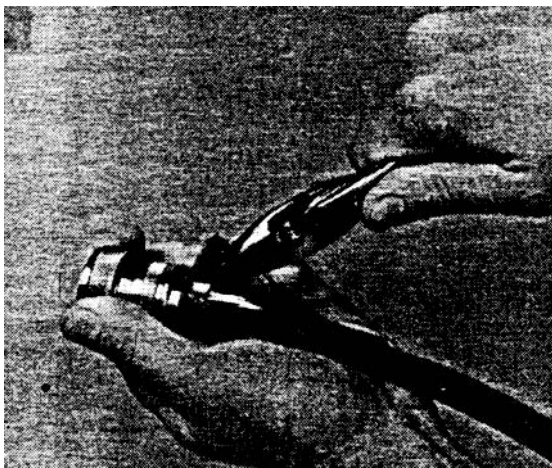

Figure 8. Peeling Standard Boot Off of
d. Peel the boot from the cable jacket and connector with pliers (Figure 8).